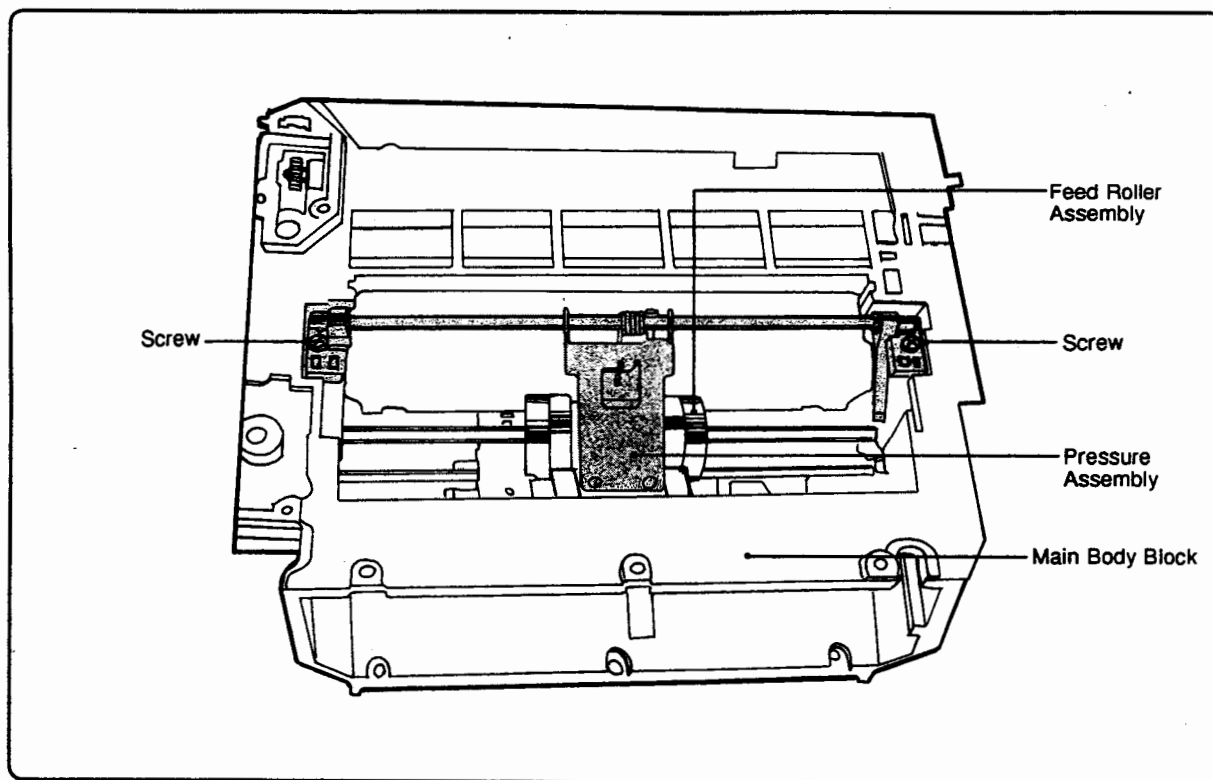

Figure 6-28. Main Body Block (Inverted)
2. Remove the screws (8) securing the Main Body Block and the 57- and 19-Tooth Gear Support Bracket (2) to the Base Plate.
3. On the bottom of the Main Body Block (see Figure 6-28), remove the screws (2) that secure the Pressure Assembly shaft and cassette guides, and remove the assembly.